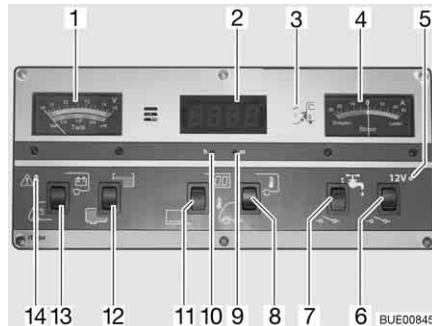

Fig. 130 Panel IT 994
With the V/tank gauge (Fig. 130,1), note the top scale. The gauge automatically lights up as soon as a switch is pressed.
- Press the lower part of the rocker switch (Fig. 130,13): The battery voltage of the starter battery is displayed.
- Press the upper part of the rocker switch (Fig. 130,13): The battery voltage of the living area battery is displayed.
The V/tank gauge is for the indication of the quantity of water or waste water. With the V/tank gauge (Fig. 130,1), use the bottom scale. The gauge automatically lights up as soon as a switch is pressed.
- Press the upper part of the rocker switch (Fig. 130,12): The volume of water is displayed.
- Press the lower part of the rocker switch (Fig. 130,12): The volume of waste water is displayed.
The red ALARM warning light (Fig. 130,14) flashes as soon as the voltage of the living area battery falls below 11 V (measured under operation) and there is a risk of a total discharge.
- Press the upper part of the rocker switch (Fig. 130,11): Digital clock display is switched on. Temperature display is ready to operate.
- Press the lower part of the rocker switch (Fig. 130,11): Digital clock display and temperature display are switched off.
- Press a thin device, such as a biro, into the opening for the hour display (Fig. 130,10) until the correct hours are displayed.
- Press a thin device, such as a biro, into the opening for the minute display (Fig. 130,9) until the correct minutes are displayed.
- Press the upper part of the rocker switch (Fig. 130,8): The internal temperature is displayed.
- Press the lower part of the rocker switch (Fig. 130,8): The external temperature is displayed.
The battery current actually flowing is permanently displayed on the current gauge (Fig. 130,4). The gauge automatically lights up as soon as a switch is pressed.
The 12 V main switch (Fig. 130,6) switches the panel and the 12 V power supply of the living area on and off.
*Switching on:* ■ Press the upper part of the rocker switch (Fig. 130,6): The 12 V living area power supply is switched on. The indicator lamp (Fig. 130,5) lights up green.
*Switching off:* ■ Press the lower part of the rocker switch (Fig. 130,6): The 12 V living area power supply is switched off. The indicator lamp (Fig. 130,5) goes out.
The 12 V indicator lamp (Fig. 130,5) illuminates whenever the 12 V main switch (Fig. 130,6) is switched on.
The yellow 230 V indicator lamp (Fig. 130,3) illuminates whenever line voltage is available at the transformer/rectifier input.
*Switching on:* ■ Press the upper part of the rocker switch (Fig. 130,7): The water supply is ON.
*Switching off:* ■ Press the lower part of the rocker switch (Fig. 130,7): The water supply is OFF.